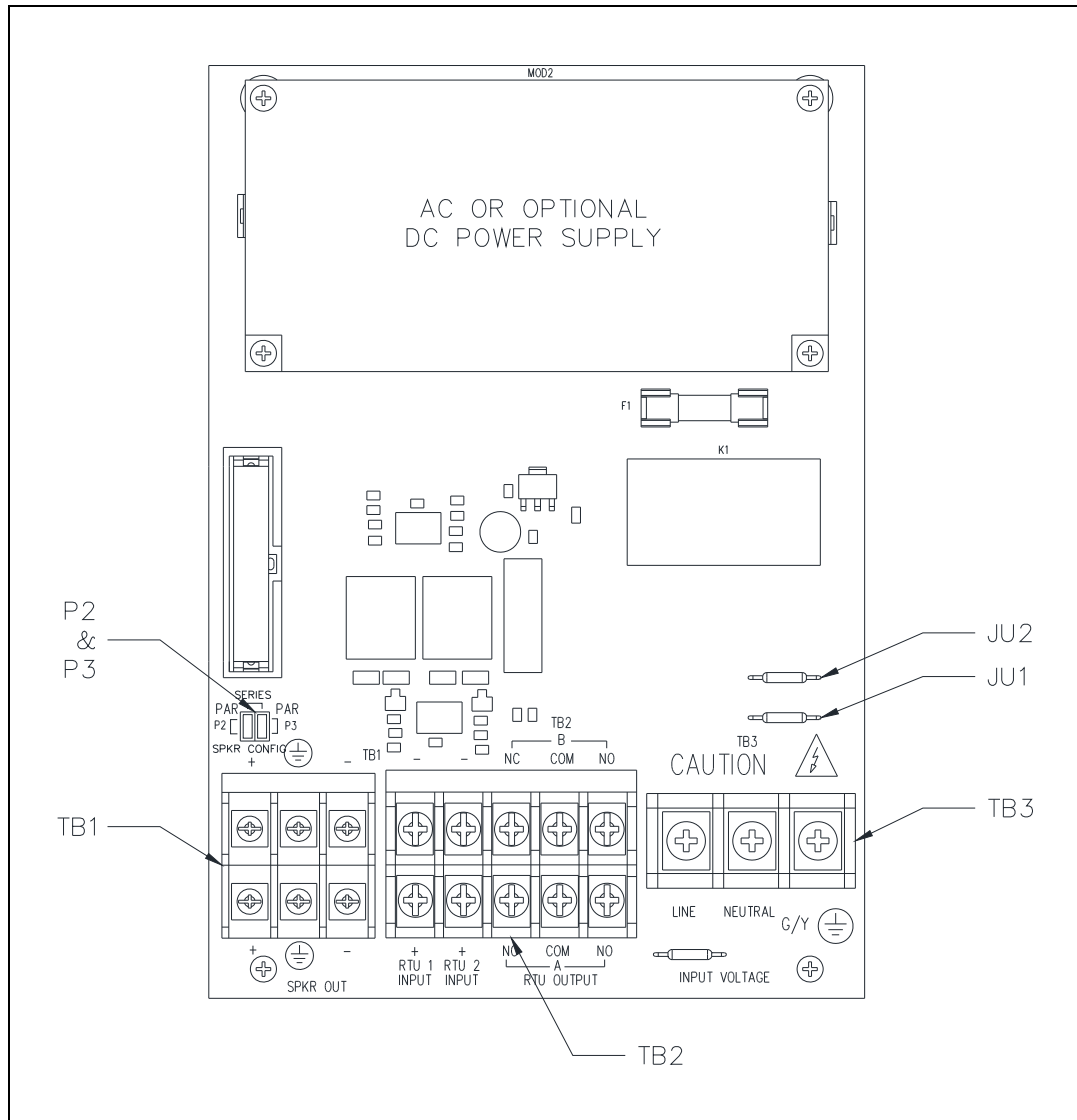
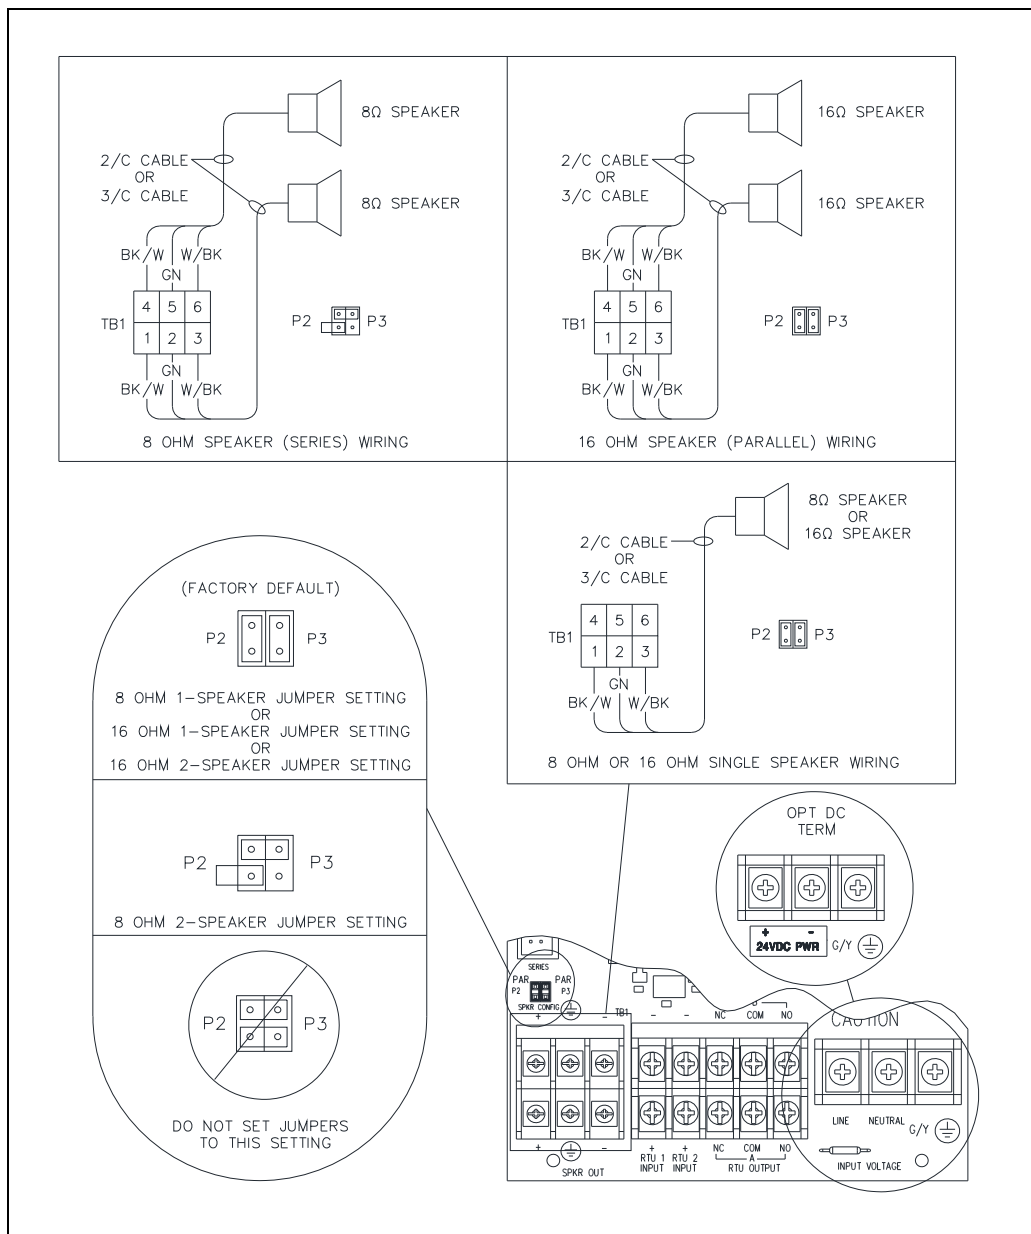
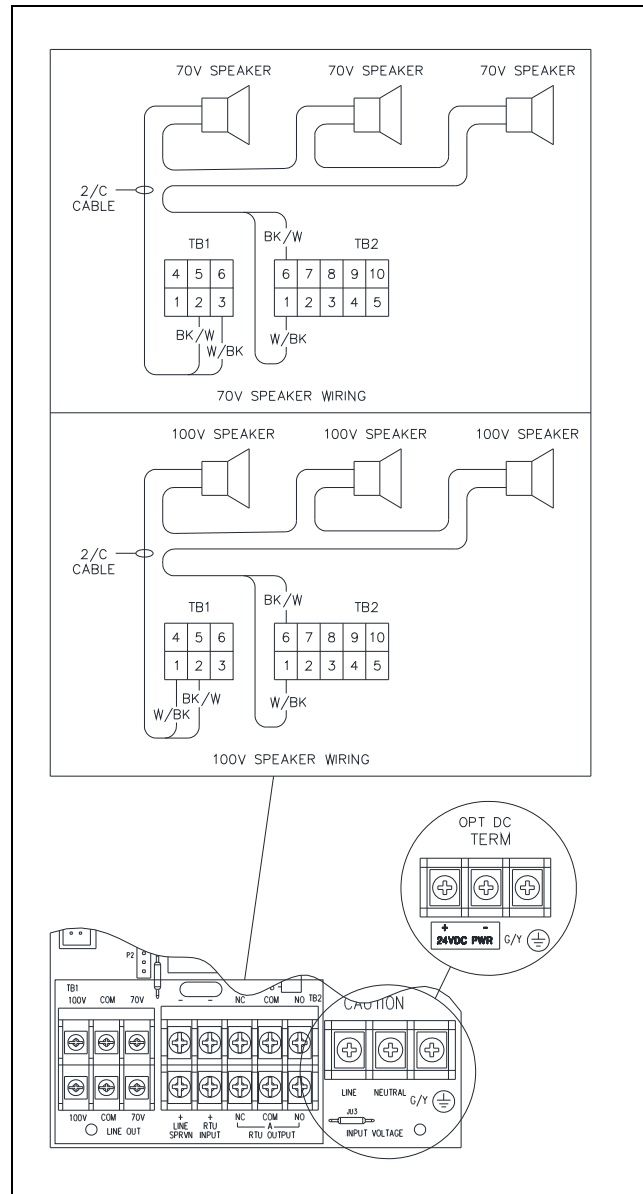
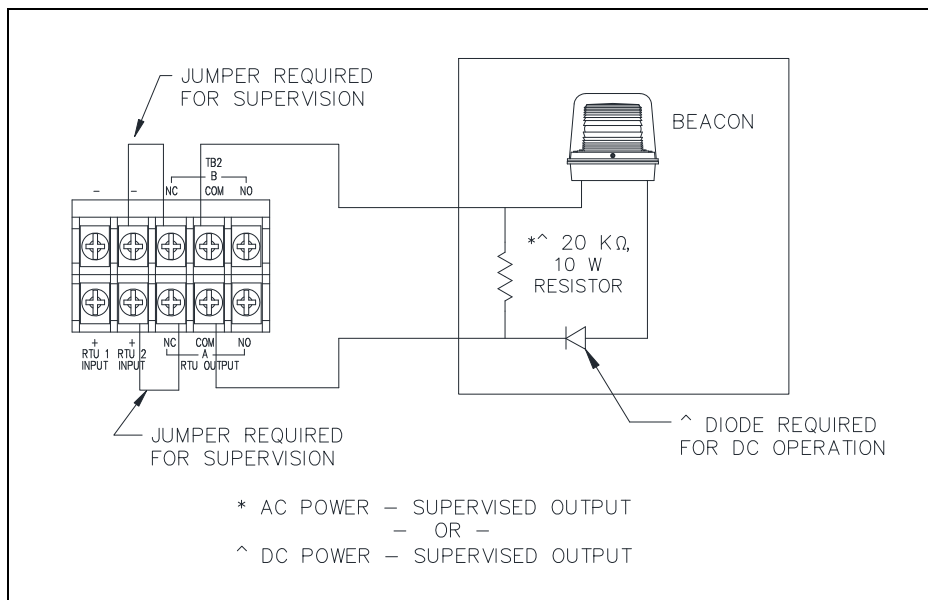

Figure 4. SP2 Standard Termination PCBA
Figure 5. 8/16-ohm Speaker Impedance Configuration and AC/DC Termination at TB3
Figure 6. 70 V/100 V Termination Board Wiring
Figure 8. Supervised Output Wiring—TB2
5. Configure the speaker jumpers; P2 and P3, for the appropriate impedance for use with 8-ohm or 16-ohm speakers (see Figure 4 and Figure 5).
The optional 70V/100V Speaker Line Monitoring PCBA replaces the standard termination board and provides for connection of 70-volt and/or 100-volt speakers to the SP2 Station. Terminal block TB1 provides termination for the station’s speaker loop(s). All speakers must be wired in parallel. One speaker loop can be monitored by terminating the return cable to the LINE SPRVN terminals on TB2 (see Figure 4, Figure 6, and Table 2).
The standard Termination PCBA contains two auxiliary RTU inputs. The optional 70V/100V termination board provides for speaker line monitoring and is equipped with just one auxiliary RTU input. These inputs are terminated at terminal block TB2 (see Figure 4).
Two Form “C” contacts are provided to power a beacon (see Figure 8). These outputs can be reconfigured for dry contact use by removing jumpers JU1 and JU2. Terminations for these outputs are provided at terminal board TB2 on the Termination PCBA (see Figure 4).
5. Install a 20-kilohm 10-watt resistor across the terminals of the beacon cable (see Figure 8).
The ac or optional dc power supply is mounted on the Termination PCBA. The termination PCBAs include terminal block TB3 for connecting the local power source to the station (see Figure 4):